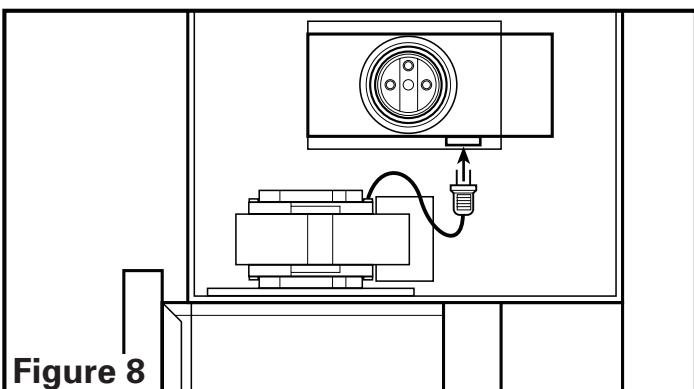

Figure 8
1. Insert plug from fan into the receptacle located under the light socket (Figure 8).